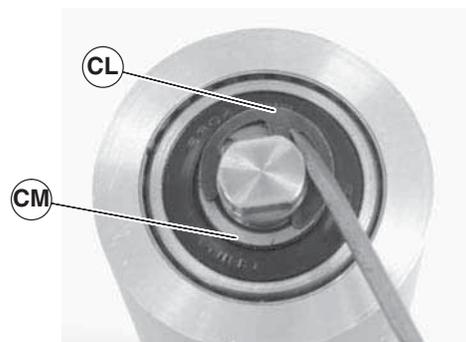

Figure 75
5. Remove the pulley shaft assembly: remove the clip ring (Figure 75, item CL) and washer (CM) from one side of the pulley assembly.